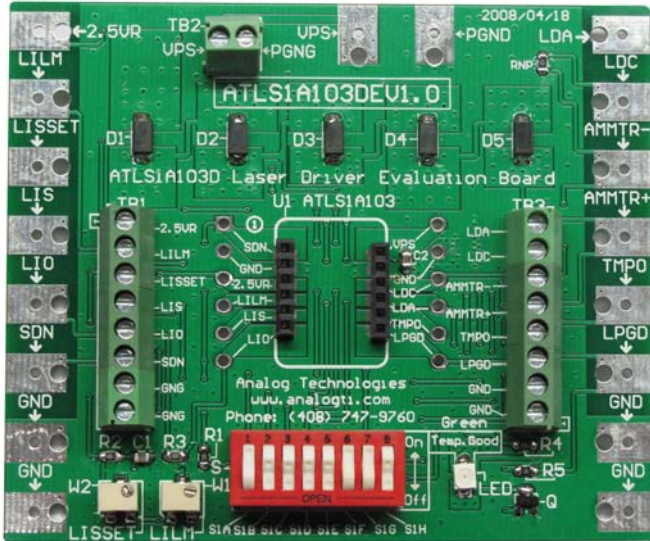

Figure 1. Physical Photo of ATLS1A103DEV1.0
The ATLS1A103DEV1.0 Evaluation Board is consisted of a complete application circuit for driving a laser diode. It can set the output current, the output current limit, has an LED for indicating the working status of the controller, has numerous connection pads and terminal connectors for making connections with external components and instruments. Its physical photo of ATLS1A103DEV1.0 is shown in Figure 1.
- Hook up the power supply. There are 2 solder pads in the upper center area on the edge for connecting the power supply voltages. The connection can be done by clipping or soldering on the pads, or use the screws to lock in 2 wires through the terminal block TB2, see Figure 1. Usually the power supply is set to 5V. If the output maximum voltage is for sure know to be always at low value, such as 2.5V, a power supply of about having 1V higher voltage than the maximum output voltage, i.e. 3.5V, can be used. When using a lower voltage power supply, the power consumption of the controller will get smaller, thus, the controller will be working under lower temperature rise.